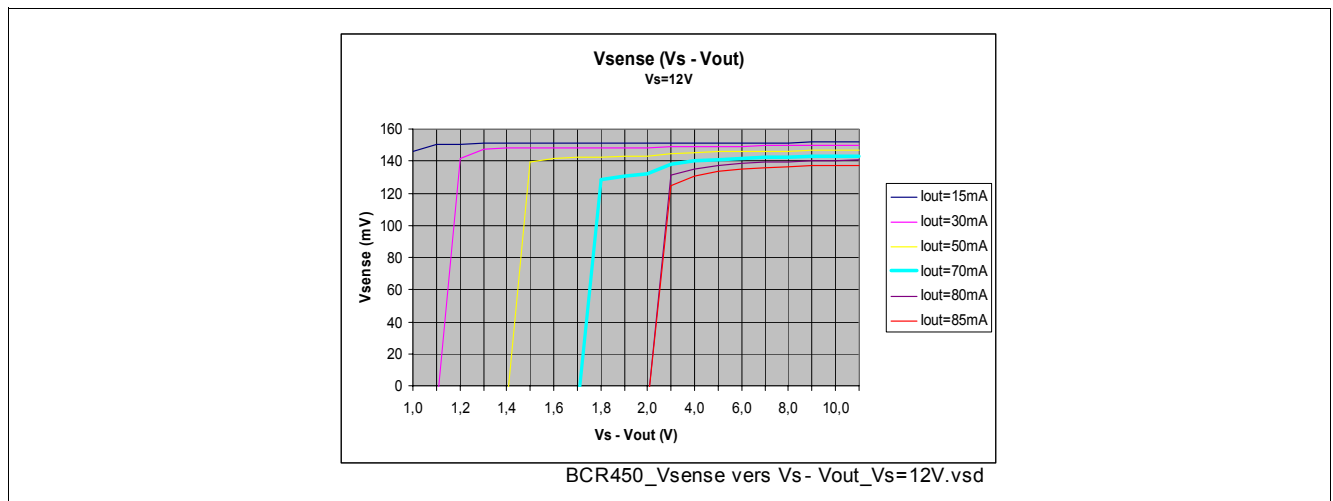

Figure 8 $V_{sense}(V_S - V_{out}); V_S = 12\text{ V}$
1. $V_S - V_{out}$ should not fall below a certain value e.g. 70 mA: ~ 2.5 V (see Figure 8). If V_F tends to maximum specification value, enough overhead regarding supply voltage should be guaranteed